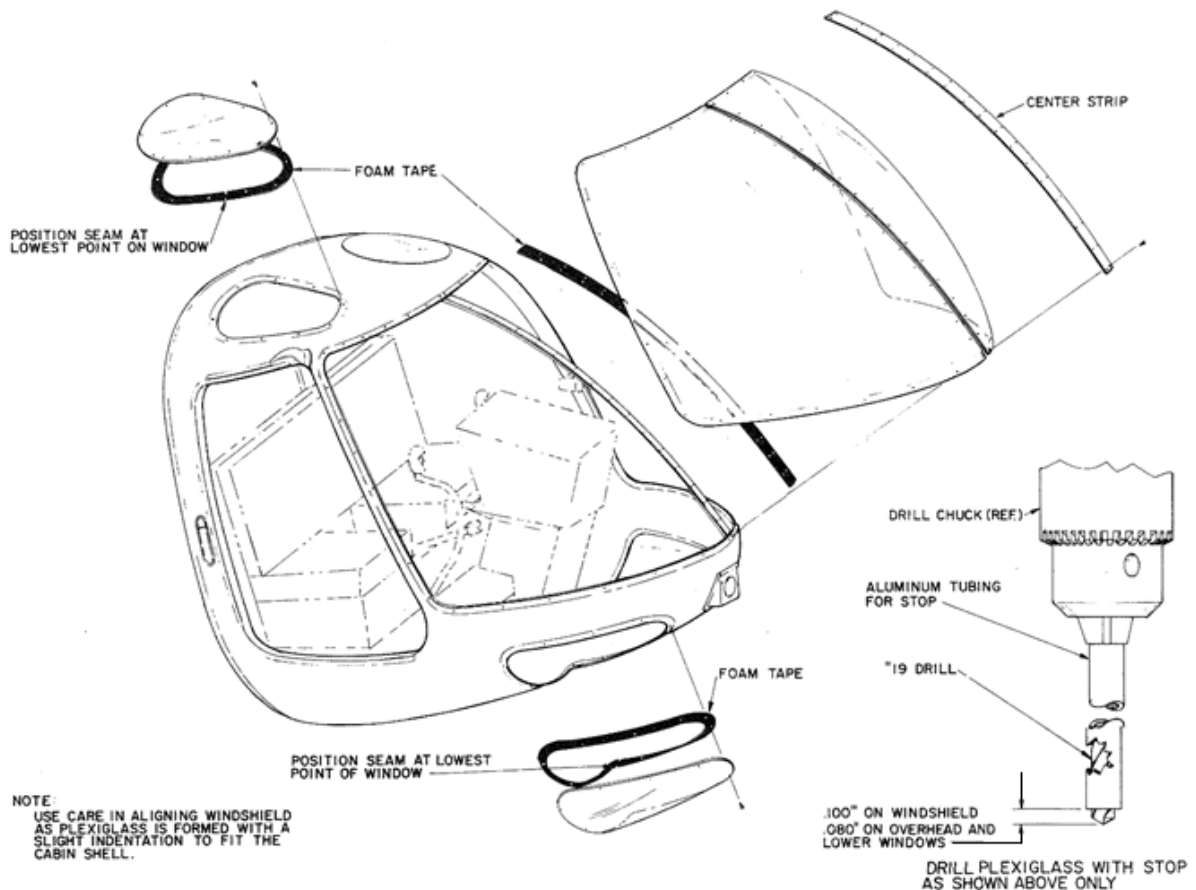

Figure 8-3. 280F Series Windshield
(21) Prepare windshield edges for paint. Repaint outer mount edge.
(22) Install doors (Para. 8-4).
E. Windshield Removal (280F Series) (See Figure 8-3)
- (5) Sand windshield mount area clean and free of old bonding adhesive with fine sandpaper.
- (6) Remove foam tape from center support brace.
F. Windshield Installation (280F Series) (See Figure 8-3)
- (1) Clean recessed windshield area of cabin frame with acetone or equivalent.
- (2) Position new windshield over cabin and apply tape to temporarily hold windshield in place.
- (14) Run a #30 drill through rivet holes to remove bonding adhesive.
- (15) Drill through all existing rivet holes in plexiglass with a modified #19 drill. See Figure 8-3 for drill modification.
- (12) Drill through all rivet holes in plexiglass with a modified #19 drill. See Figure 8-3 for drill modifications.
- (13) Secure window in place with rivets.
- (14) Prepare window edges for paint. Repaint outer mount edge.